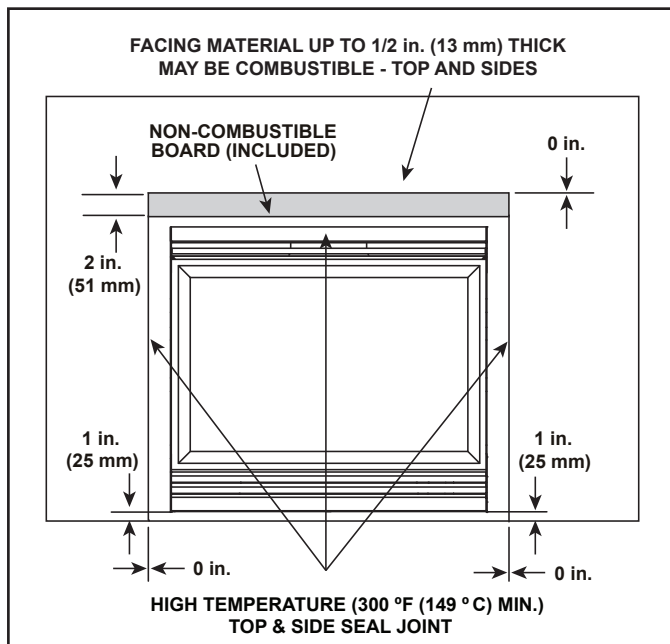

Figure 10.1 Facing Materials
- Seal joints between the finished wall and appliance top and sides using a 300 °F (149 °C) minimum sealant. Refer to Figure 10.1